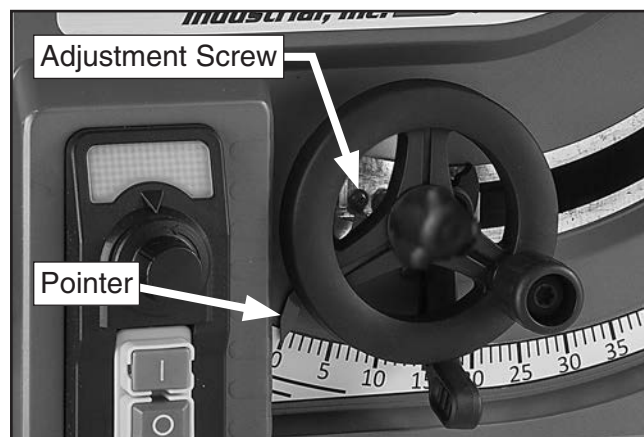

Figure 80. Location of tilt scale pointer and adjustment screw.
- If blade *is* 90° to table, then no adjustment to stop cam is necessary. Make sure tilt scale pointer shown in **Figure 80** points to 0° mark on scale. If necessary, adjust position by loosening adjustment screw, moving pointer with your fingers, then tightening screw.
- If blade *is* 45° to table, then no adjustment to stop cam is necessary. Make sure tilt scale pointer shown in **Figure 80** on **Page 50** points to 45° mark on scale. If necessary, adjust position by loosening adjustment screw, moving pointer with your fingers, then tightening screw.